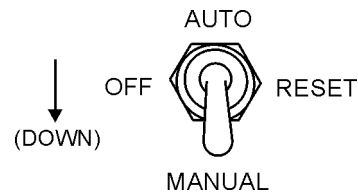

Figure 42. Off/Manual/Auto Switch (Manual)
7. Place the Off/Manual/Auto switch (Figure 42) in the **MANUAL** position (down). Observe that the engine begins to crank.